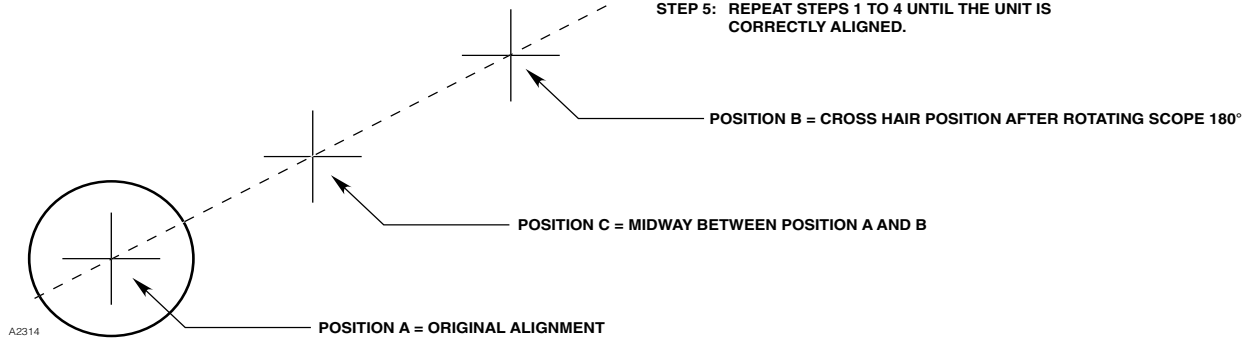

Figure 18—OPECL Alignment using the Telescope Alignment Tool
- A. Adjust the telescope alignment screws until the cross hairs are midway between the original position (center of receiver window) and the current position (after the scope was rotated 180°). See Figure 18.